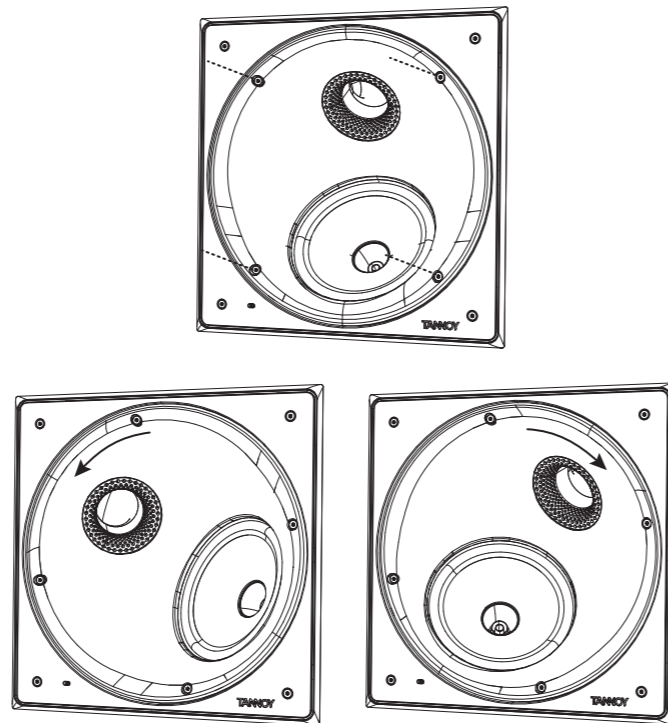

Fig. 9. Rotating the baffle assembly
2. Undo the four screws as shown, but just enough to allow the rotation to the desired position (Fig. 9).